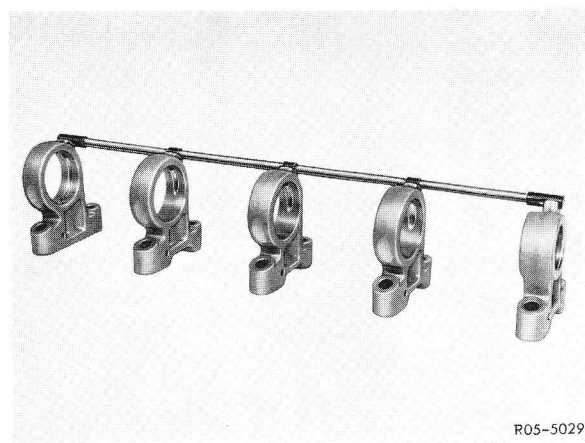

Fig. 3
**9** Lubricate bearing points of new camshaft and carefully install camshaft into camshaft bearings (Fig. 3).